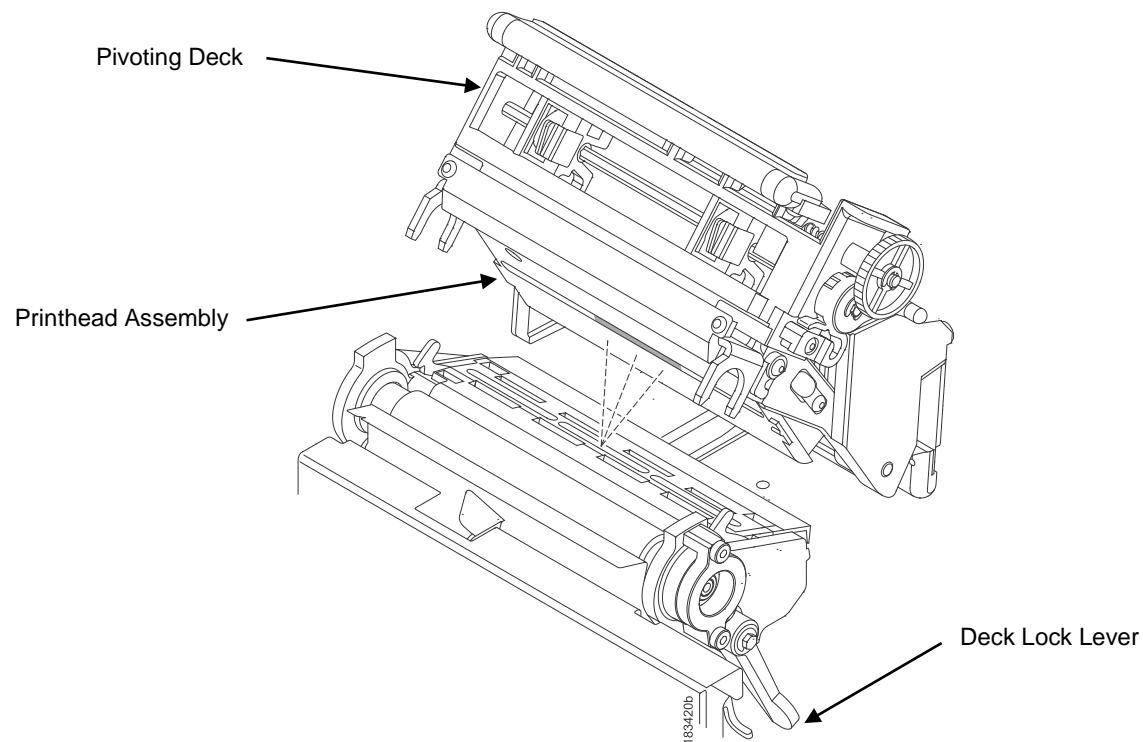

Figure 21 Opening the Pivoting Deck
3. Close the pivoting deck and rotate the deck lock lever fully counterclockwise. (*Figure 21.*)